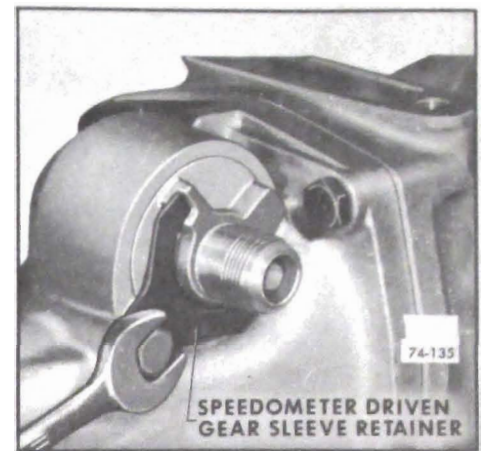

Figure 74-135
1. With transmission in a horizontal position, remove speedometer driven gear sleeve retainer. See Figure 74-135.